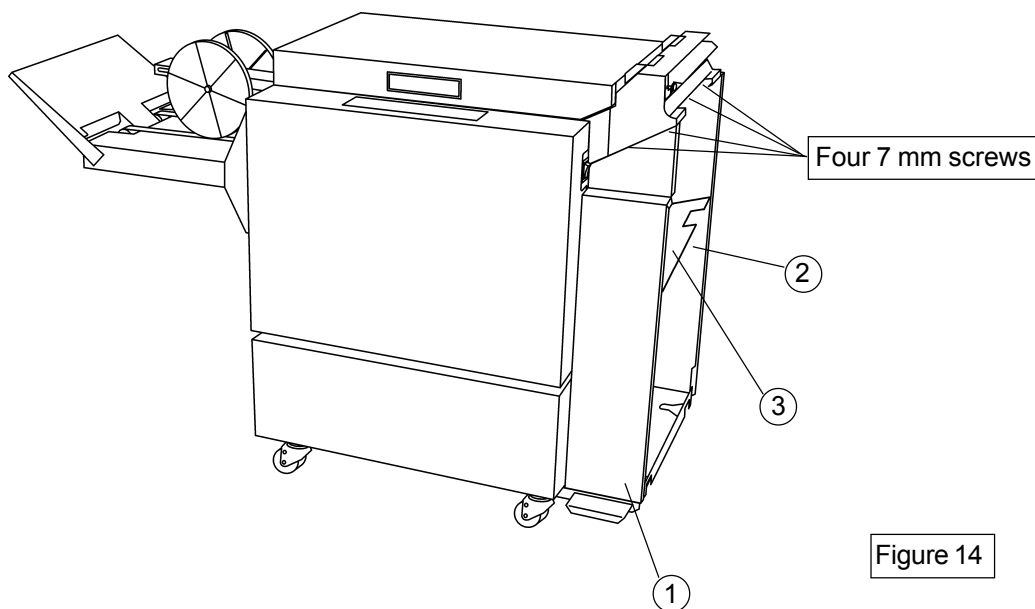

Figure 14
8. Take the front (1) and the rear (2) panels, slide them with the bottom first onto the docking assembly. Put the shelf (3) between the panels, make sure you turn the shelf correct. The cut out should be away from the Booklet maker, not towards. Slide the top of the panels under the screws on the infeed. Tighten the four 7 mm screws. Take the printer exit tray and put it on the shelf, figure 14.